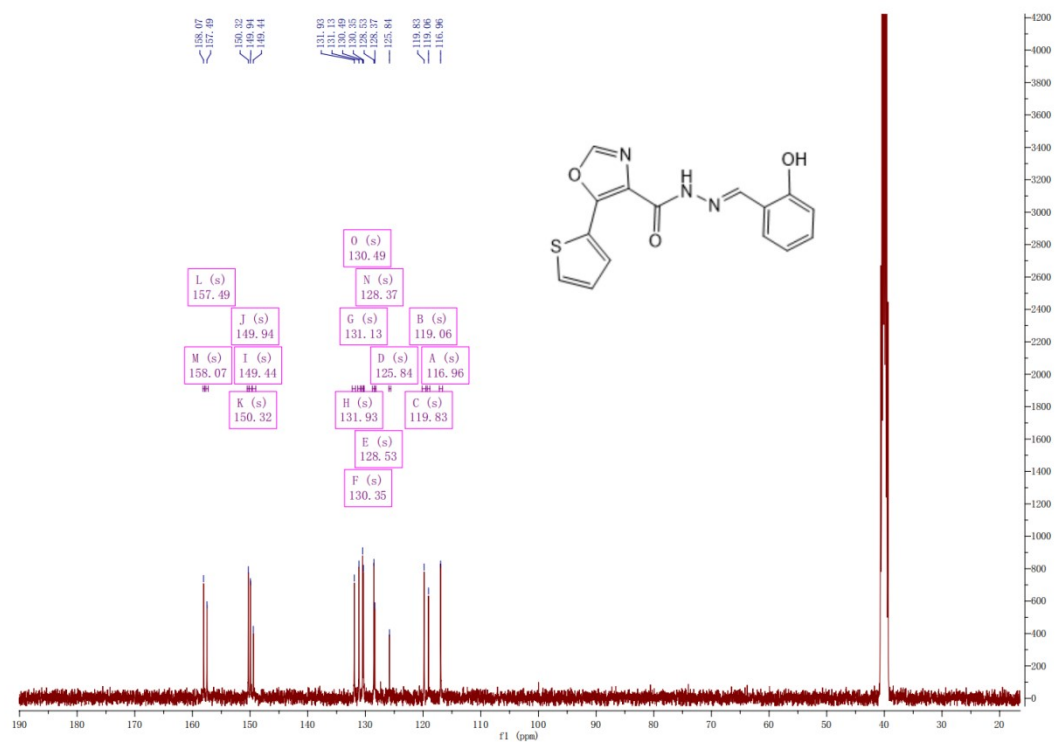

Fig. S2. ^{13}C -NMR in $\text{DMSO-}d_6$ spectrum of L1.
2. **Figure S2.** ^{13}C NMR in DMSO- d_6 spectrum of **L1**.